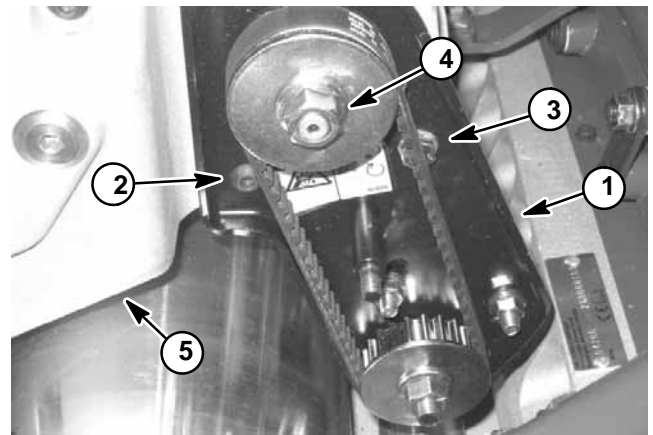

Figure 22
2. Remove reel drive assembly from gearbox (Fig. 22):
- D. Pull drive shaft plate from gearbox after removing three (3) fasteners: two socket head screws and one cap screw with lock washer.
5. Remove four (4) remaining socket head screws and flat washers that secure gearbox cover to base.
16. Install reel drive assembly to the gearbox (Fig. 22):